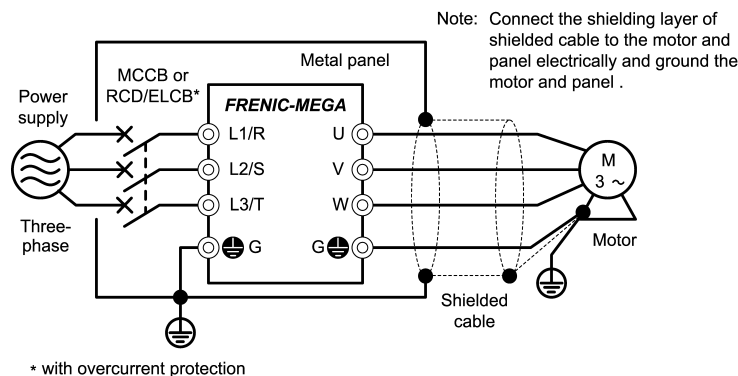

Figure 9.2 Mounting the Inverter in a Metal Panel
- 3) If noise from the inverter exceeds the permissible level, enclose the inverter and its peripherals within a metal panel as shown in Figure 9.2.